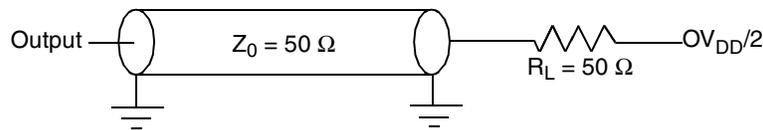

Figure 22. Local Bus C Test Load
Figure 22 provides the AC test load for the local bus.
- All outputs are measured from the midpoint voltage of the falling/rising edge of t_{CLK} to the midpoint of the signal in question. The output timings are measured at the pins. All output timings assume a purely resistive 50- Ω load (see Figure 22). Time-of-flight delays must be added for trace lengths, vias, and connectors in the system.
- The symbols used for timing specifications herein follow the pattern of $t_{(\text{first two letters of functional block})(\text{signal})(\text{state})(\text{reference})(\text{state})}$ for inputs and $t_{(\text{first two letters of functional block})(\text{reference})(\text{state})(\text{signal})(\text{state})}$ for outputs. For example, t_{JTDVKH} symbolizes JTAG device timing (JT) with respect to the time data input signals (D) reaching the valid state (V) relative to the t_{JTG} clock reference (K) going to the high (H) state or setup time. Also, t_{JTDXKH} symbolizes JTAG timing (JT) with respect to the time data input signals (D) went invalid (X) relative to the t_{JTG} clock reference (K) going to the high (H) state. Note that, in general, the clock reference symbol representation is based on three letters representing the clock of a particular functional. For rise and fall times, the latter convention is used with the appropriate letter: R (rise) or F (fall).